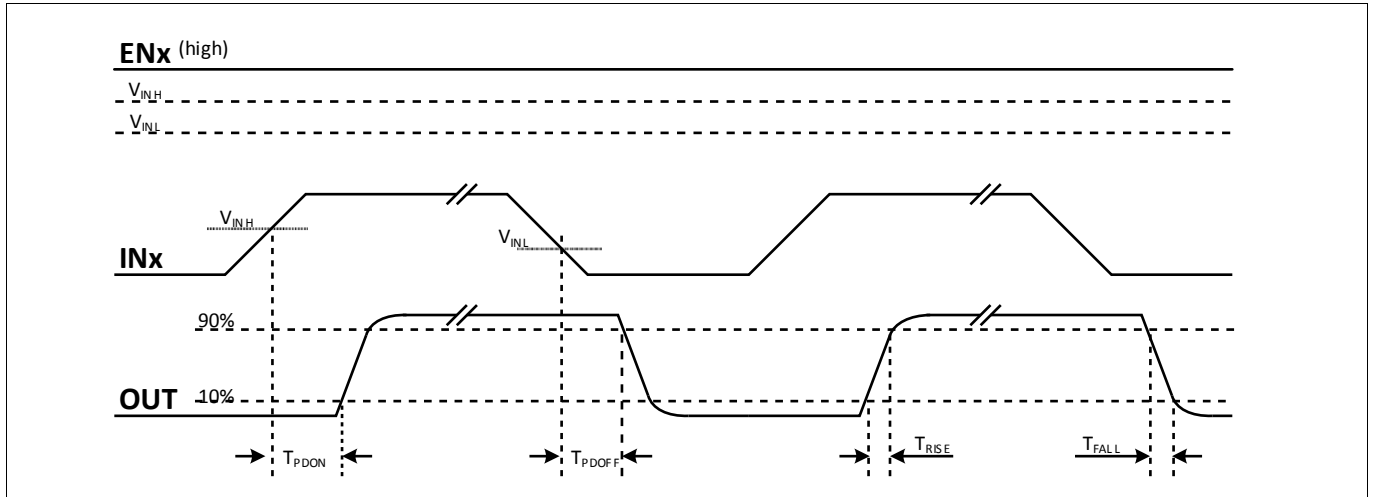
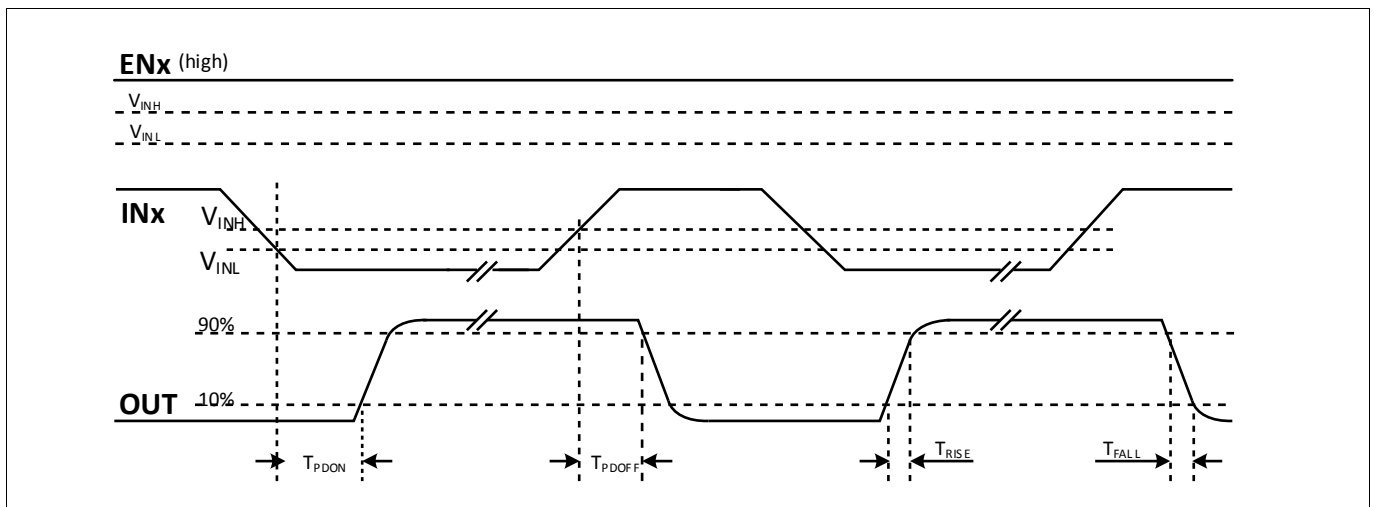
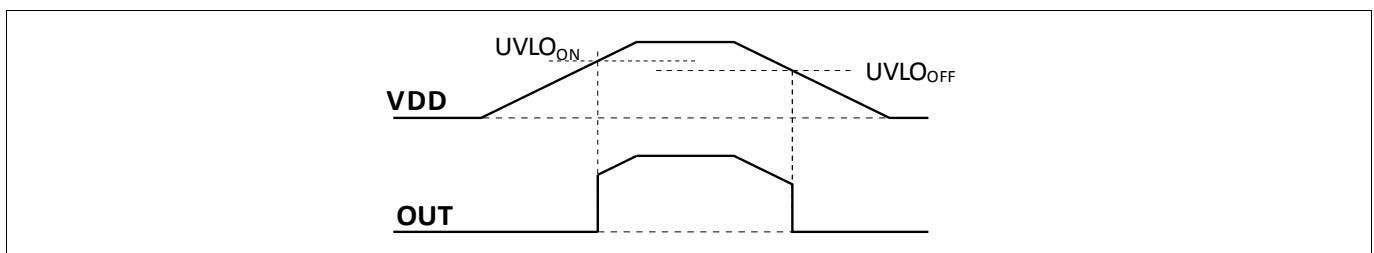

Figure 6 Propagation delay, rise and fall time, non-inverted
Figure 7 Propagation delay, rise and fall Time, inverted
Figure 8 UVLO behaviour, input ENx and INx drives OUTx normally high
**Table 13 Static Output Characteristics (see Figure 7)**
**Table 14 Dynamic Characteristics (see Figure 6, Figure 7, Figure 8 and Figure 9)**
Figure 6 shows the definition of rise, fall and delay times for the inputs of the non-inverting / direct version (with Enable pin high or open).
Figure 7 shows the definition of rise, fall and delay times for the inputs of the inverting version (with enable pins high or open).
Figure 8 illustrates the undervoltage lockout function.